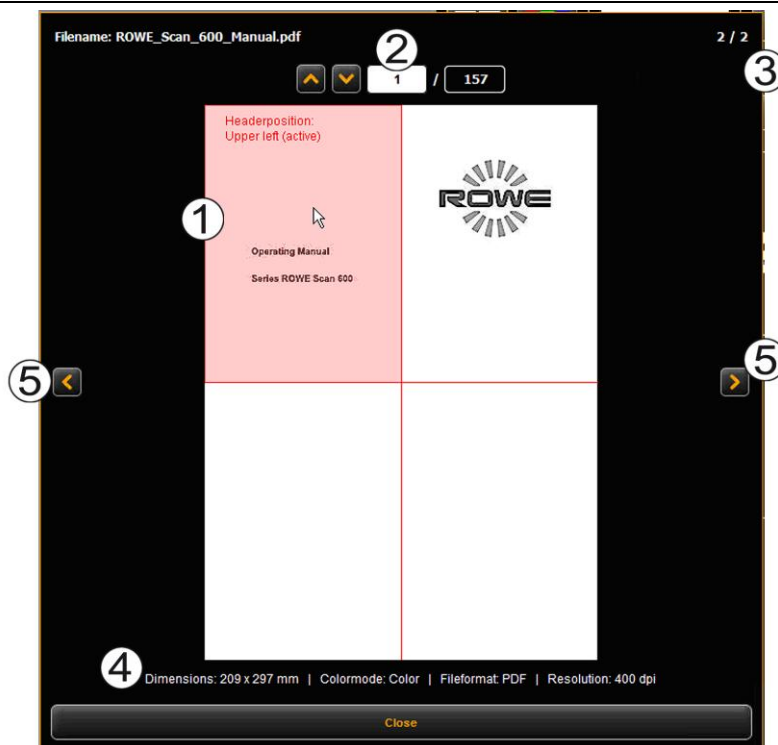

Figure 5.48: PrintMaster PRO - File preview
3. *Preview*: By means of this key you open a preview of the file selected in the list (highlighted in dark gray). You can also open the preview by double-click on the respective entry in the list. For details on preview see Figure 5.48.